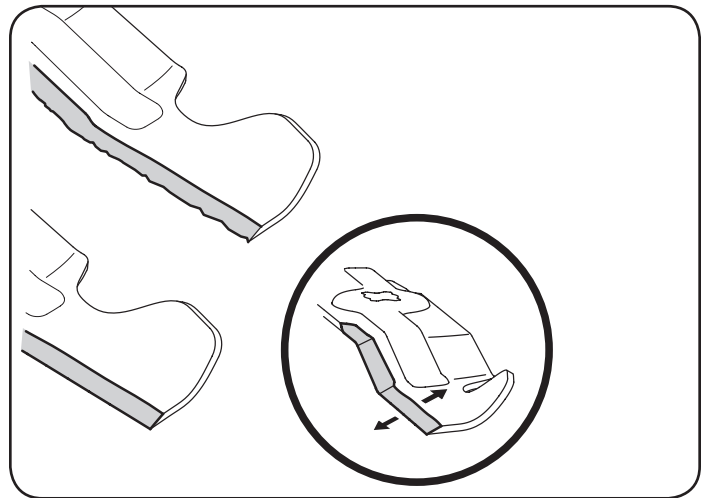

Figure 20
4. To properly sharpen the cutting blades, remove equal amounts of metal from both ends of the blades along the cutting edges, parallel to the trailing edge, at a 25°- to 30° angle. Always grind each cutting blade edge equally to maintain proper blade balance. See Figure 20.